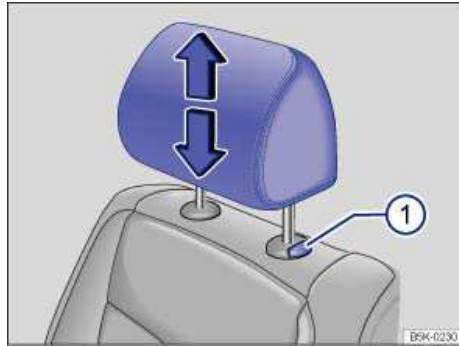

Fig. 38 Adjusting the head restraints.
- Pull the head restraint up in the direction of the arrow, or push it down while pressing the button ⇒ fig. 38 (1) ⇒ ⚠.